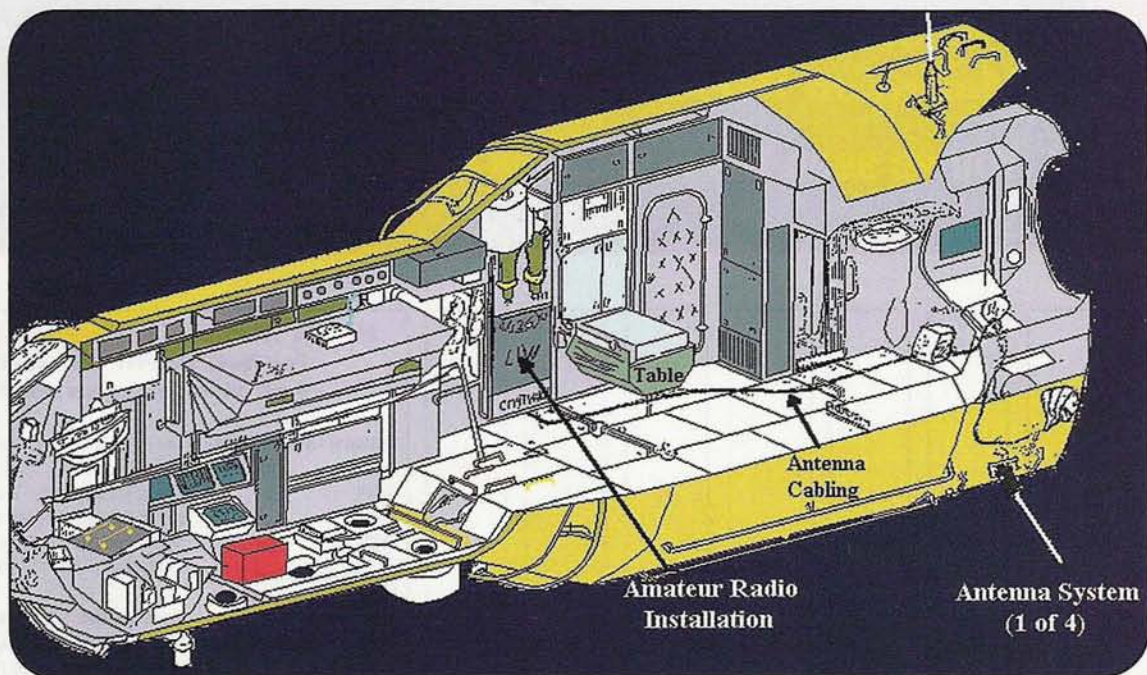

Figure 2. ARISS hardware in Service Module.
The ARISS team's vision of supporting several different international users at the same time on separate frequency bands and different modes (voice, data, television, etc.) requires several different antenna systems. The ARISS-Russia team, led by Sergej Samburov, RV3DR, provided this foundation through the installation of four ham radio antenna feedthrough ports on the Russian Service Module. With these antennas in place, the primary location of the ham station will reside inside the Russian Service Module (SM) named Zvezda. The ham station will be installed near the SM dining table (see figure 2). Simultaneous multi-band operations can be conducted with these two (SM and FGB) station locations.